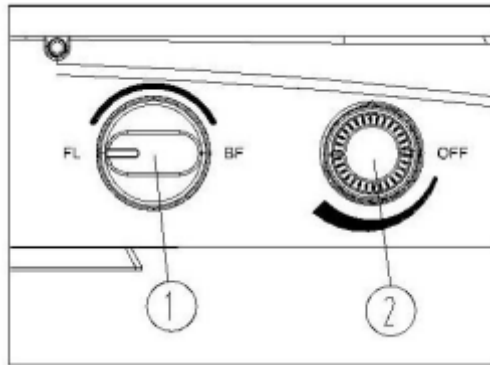

Figure 19
- 8) **Illumination:** Rotate the adjustment knob (②) clockwise. A "Dida" sound will indicate that the LED fluorescence lamp has been turned on. Continue rotating clockwise to increase brightness. Rotate counterclockwise to decrease brightness and turn off the lamp entirely with another "Dida" sound. (See Fig. 19)